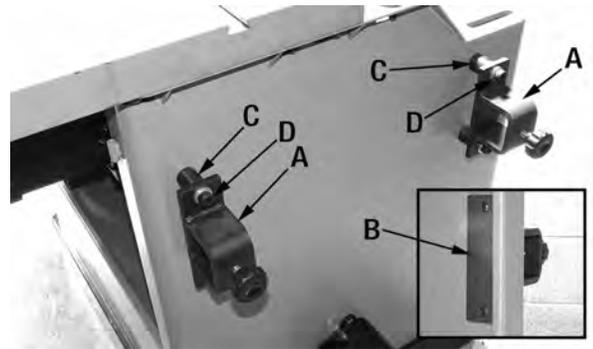

FIGURE 23
5. Install the overarm support brackets (A) Fig.23 to the rear of the cabinet as shown.
6. Position a rear plate (B) Fig.23 inside the cabinet, then fix the support bracket and spacers (C) to the cabinet using two cap screws, spring washers and washers (D). Repeat for the second support bracket.